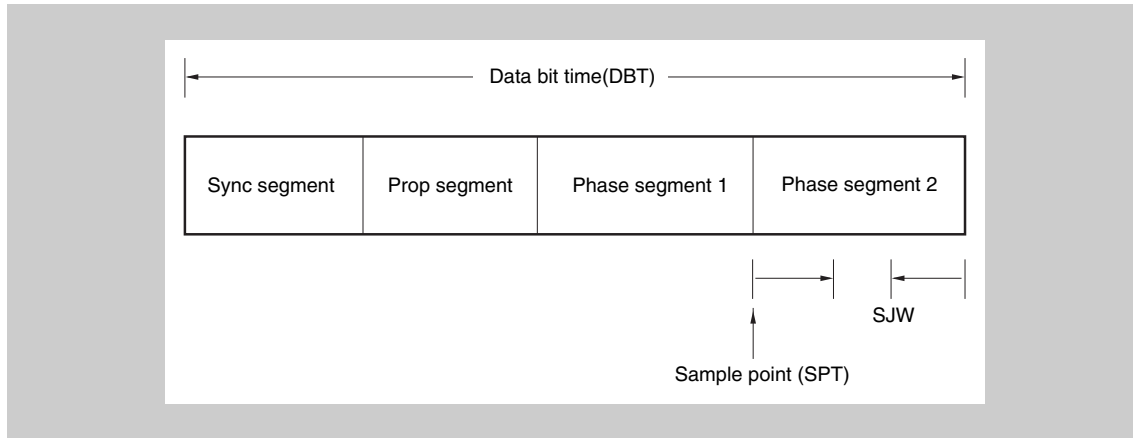

Figure 19-19 Configuration of data bit time defined by CAN specification
2. Reference: The CAN protocol specification defines the segments constituting the data bit time as shown in *Figure 19-19*.